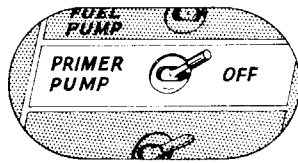

Figure 19 — Primer Pump Switch
(7) **PRIMER.**—The priming unit is operated through a switch located on the main switch panel (see figure 19). To operate, flip the switch on, and hold it there. When released, the switch will snap back to "OFF."